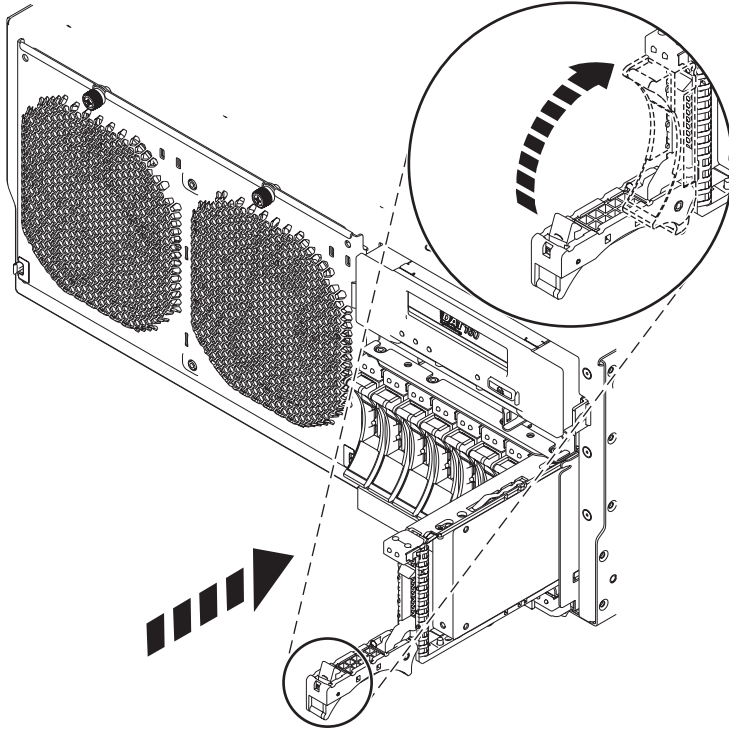

Figure 5. Installing the disk drive in the system
3. Unlock the drive handle (A) by squeezing it and pulling it out toward you. If the handle is not all the way out, the drive does not slide into the system or expansion unit.
7. When the identify LED flashes, slide the drive all the way into the system or an expansion unit, and push the drive handle (A) in until it locks, as shown in Figure 5 on page 12.